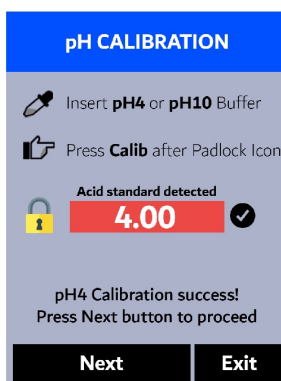

Figure 47.
17. If the calibration succeeds, a checkmark (✔) and a "pH4 Calibration success!" or a "pH10 Calibration success!" message will appear (Figure 47). Otherwise, a warning message is displayed.
- (b) Press **Exit** (OK) to end the calibration process at a two-point calibration.